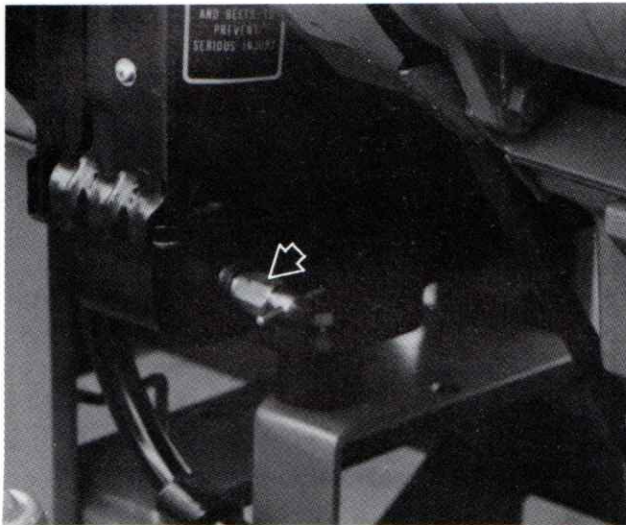
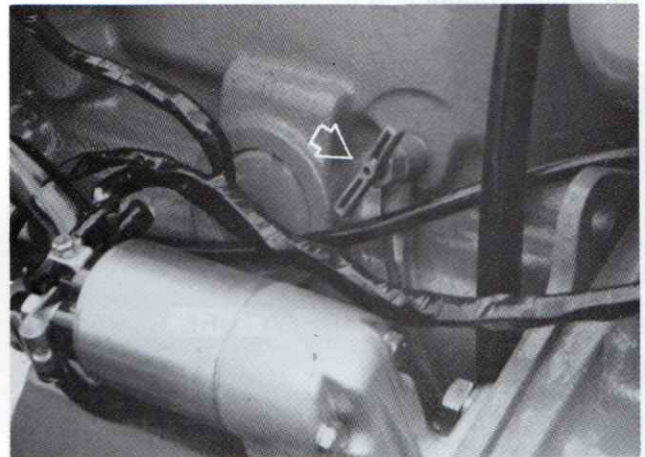

Figure 41 — Radiator Drain Valve
Figure 42 — Engine Block Drain Valve
1. Remove the radiator cap and open the drain valve at both the radiator and the engine block. The radiator drain valve is located on the bottom left side of the radiator, Figure 41. The engine block drain valve is located on the left side of the engine. See Figure 42.